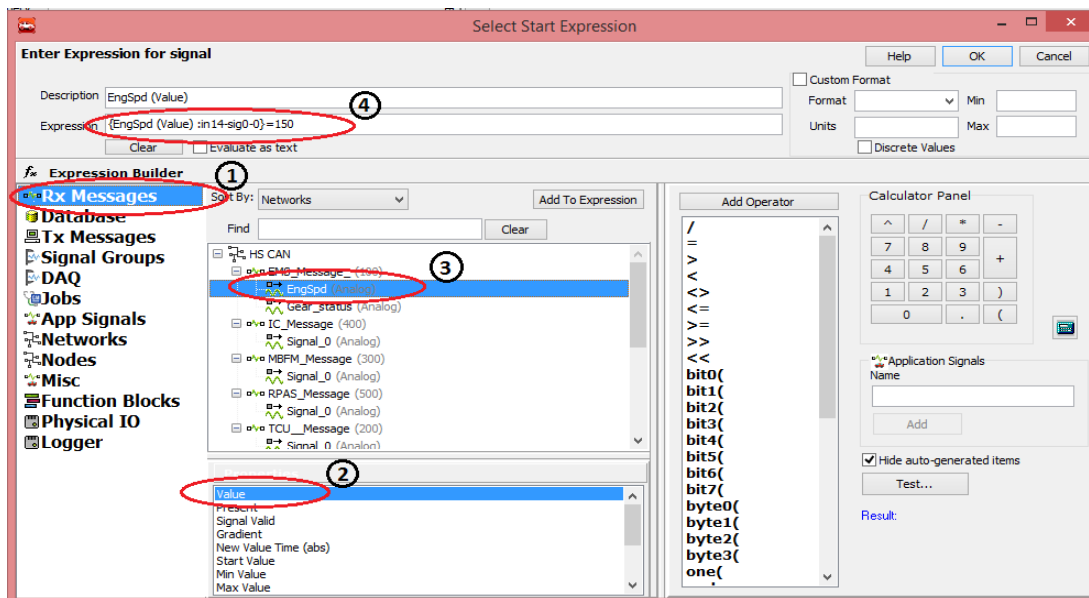

Figure 17: Selection of expression for start logging option
- Click on ‘Rx Messages’ (Figure 17 (1)) and select ‘Value’ property (Figure 17 (2)) from property list then double click on ‘EngSpd’ Signal (Figure 17(3)). It will come in Expression block on top of window then set expression as ‘{EngSpd (Value) :in14-sig0-0}=150’ (Figure 167(4)).